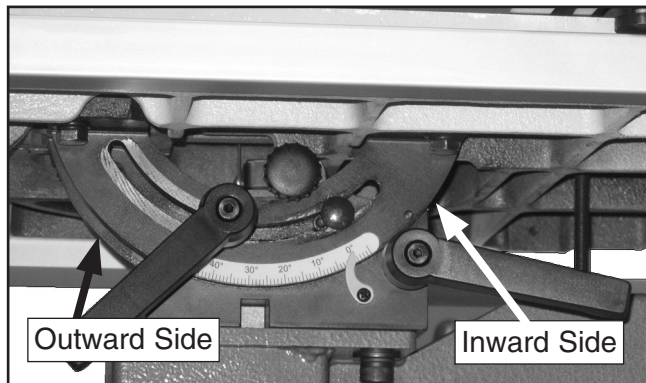

Figure 59. Sides of table trunnions to grease.
2. Wipe the old grease off the bearing surfaces of the table trunnions. Start with the outward side of the table trunnions (**Figure 59**) when the table is at 0°, then tilt the table to 45° and wipe off the inward side. The old grease will be contaminated with wood or metal dust, so you want to remove as much of it as you can.